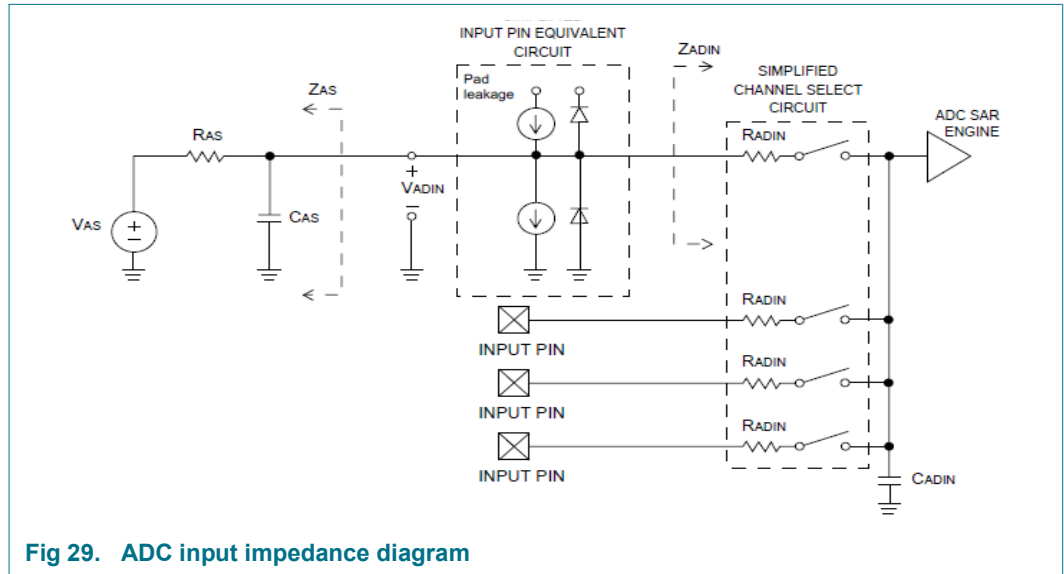

Fig 29. ADC input impedance diagram
- [3] CADIN represents the external capacitance on the analog input channel for sampling speeds of 1.0 Msamples/s. No parasitic capacitances included. See Figure 29
- [8] This resistance is external to the MCU. To achieve the best results, the analog source resistance must be kept as low possible. The results in this data sheet were derived from a system that had $< 15\ \Omega$ analog source resistance. See Figure 29.
- (1) Example of an actual transfer curve.
- (2) The ideal transfer curve.
- (3) Differential linearity error (E_D).
- (4) Integral non-linearity ($E_{L(adj)}$).
- (5) Center of a step of the actual transfer curve.